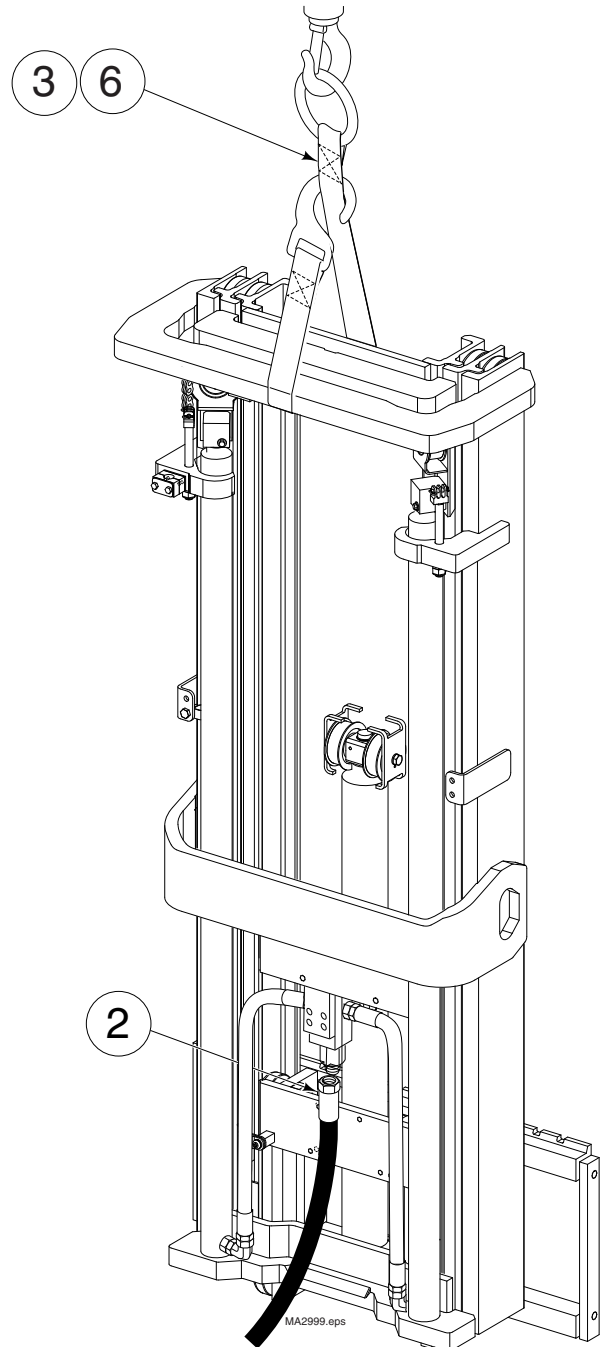

Figure 28. Mast Removal
3. Attach overhead hoist strap as shown in Figure 28. Take up slack in the chain.